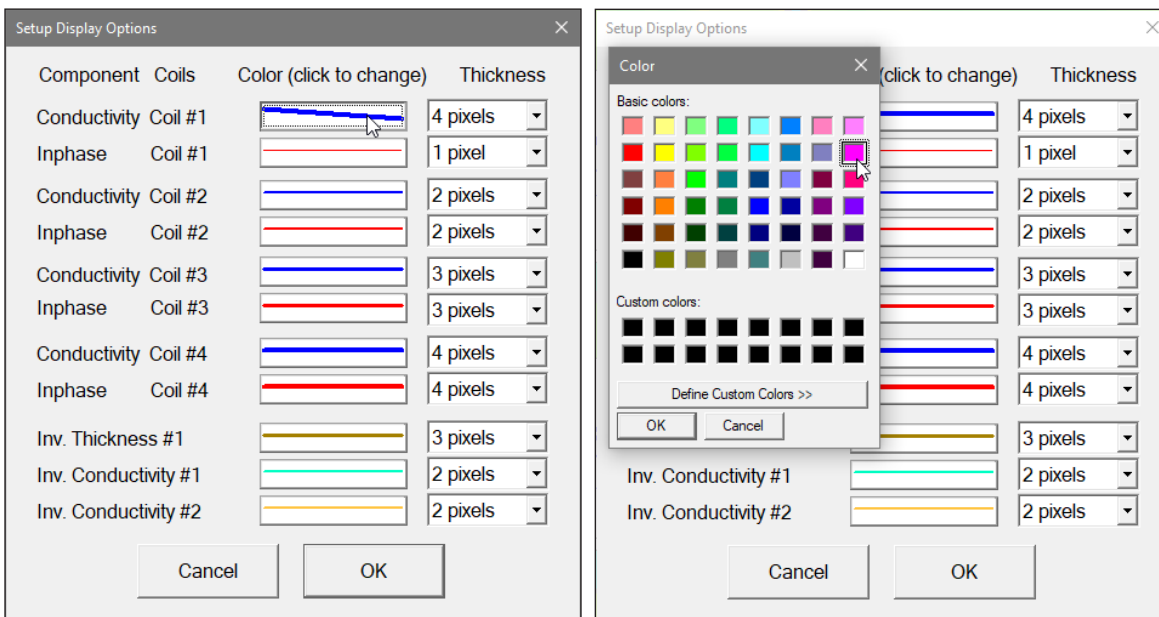

Figure 3.26 Selecting colour for a profile in the Setup Display Options and Color dialogs
- Current color samples are shown as buttons. To change a color, click the button, select a new color in the Color dialog (Figure 3.26), and click OK.